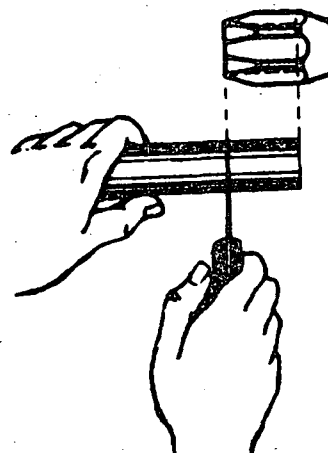

Fig. 5
- b) Measure with the socket the amount of hose to be inserted at each end (Fig. 5).